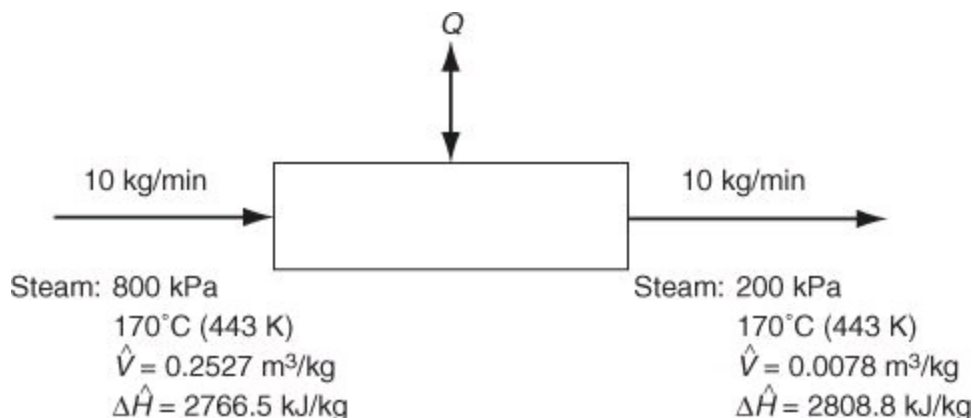

Figure SAT9.3.4P2
2. Calculate Q for the system shown in Figure SAT9.3.4P2.